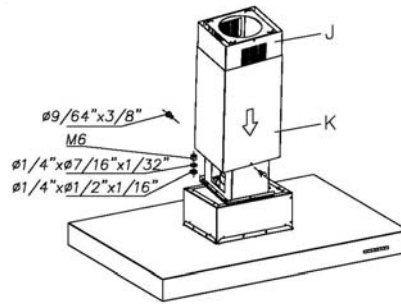

Fig. 5
- Introduce pipe K and keep it raised (Fig. 5).
- Affix the hood to the telescopic structure using the nuts and washers (Fig. 5).
- Lower pipe K and attach it to the hood with 2 screws (Fig. 5)